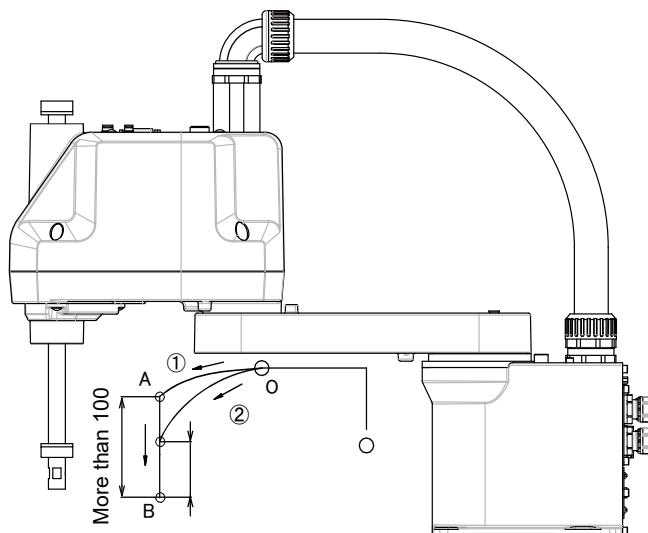

Fig.2-8: Recommended path when positioning at the bottom edge of the Z axis
- 3) When positioning the work near the bottom edge of the Z axis, if no effectiveness is achieved in step "2" above, perform operation ① (robot path: O → A → C). In the case of operation ② (robot path: O → B → C), residual vibration may occur. (Refer to Fig. 2-8.)